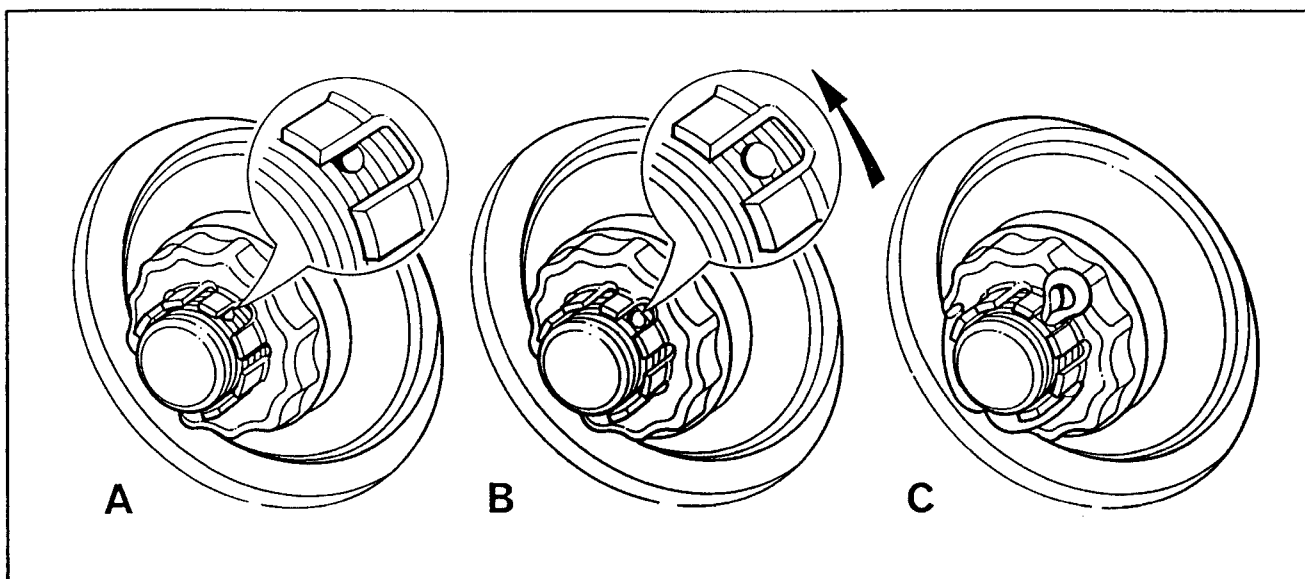

Fig 3. Front hub - adjustment sequence
9. Fit the hub retainer without disturbing the hub nut so that one of the tabs on the retainer partly covers the left hand side of the split pin hole in the stub axle (see Fig 3. - illustration A).
10. Slacken the nut and nut retainer until the split pin hole is fully exposed (see Fig 3. illustration B), to give the correct bearing end float of 0,025 - 0,152 mm (0.001-0.006 in.)